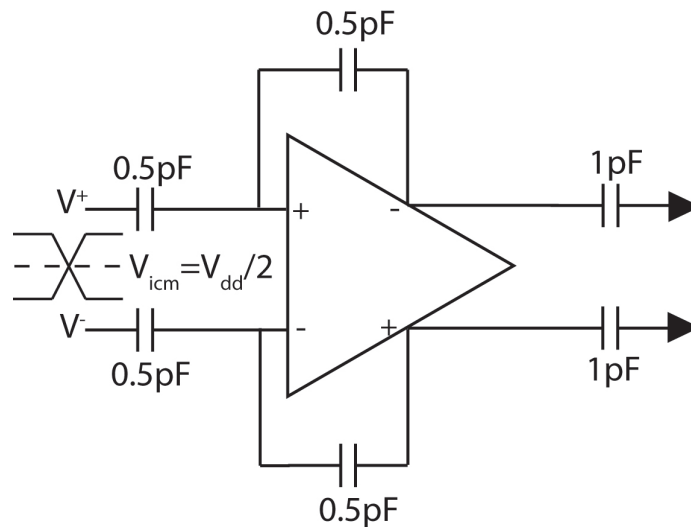

Figure 2: Configuration for testing step response
6. Plot the step response of your amplifier for a 100mV step for both rising and falling steps with your op-amp in unity gain configuration, see figure 2.